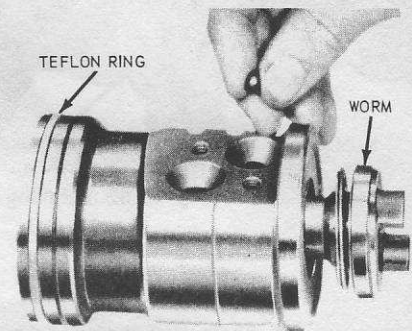

Fig. 11.58 Installing the worm and balls (Sec 34)
- 7 Slide the worm (Fig. 11.58) fully into the rack piston. Load 16 balls into the guide hole nearest the Teflon ring, slowly rotating the worm counterclockwise, thus feeding the balls through circuit. Alternate the dark colored and polished balls through the circuit as they are loaded.